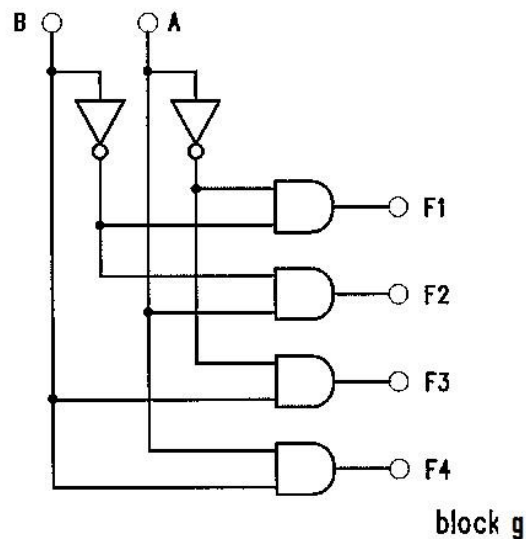

Figure 9.1
9.1 Construct the circuit shown in Figure 9.1 on **block g** of lab module KL 34003. Connect inputs A and B to toggle/ data switches and outputs F1 ~ F4 to logic indicators. Apply all possible input conditions to A and B. Record and discuss on the output results in **Table 9.1** in the result sheet.